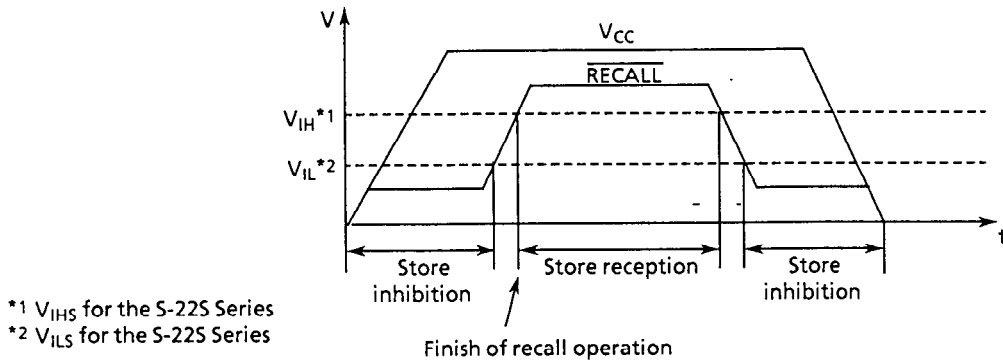

Figure 9 STORE inhibition period and reception period at power ON and OFF
- $\overline{\text{RECALL}}$ goes $V_{IL}(V_{ILS})$ when power turns on or off (see Figure 9).